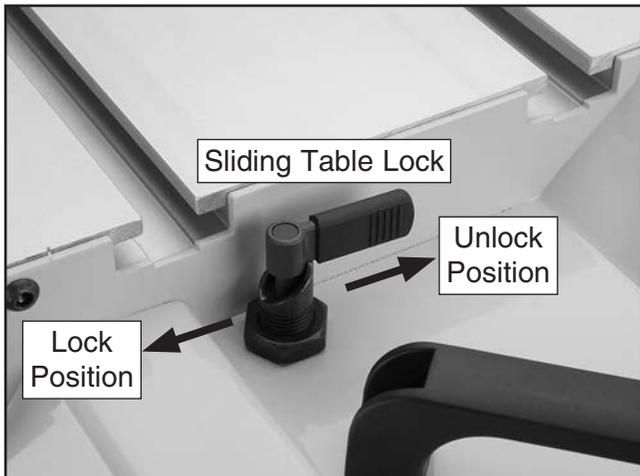

Figure 50. Sliding table lock.
1. Lock the sliding table in a stationary position in front of the saw. (The table will only lock in place when it is centered in front of the saw and the sliding table lock is in the locked position (see **Figure 50**).